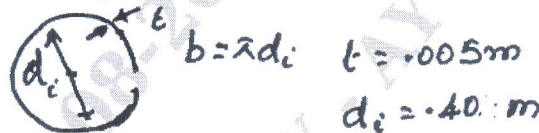

Fig.Q6(b)
b. If J of the open circular section is $bt^3/3$, compare it with J of a closed section of the same dimension. [Refer Fig.Q6(b)]